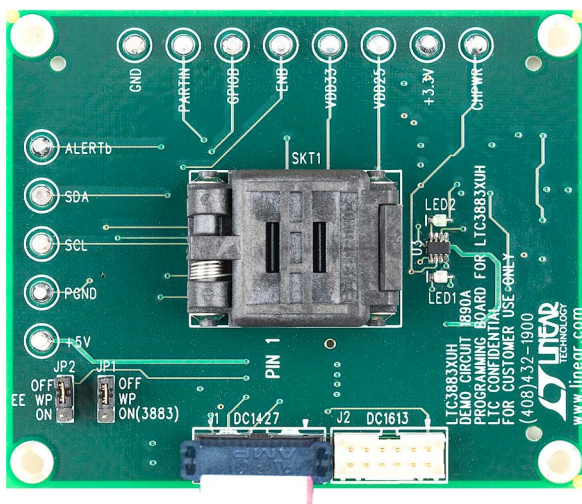
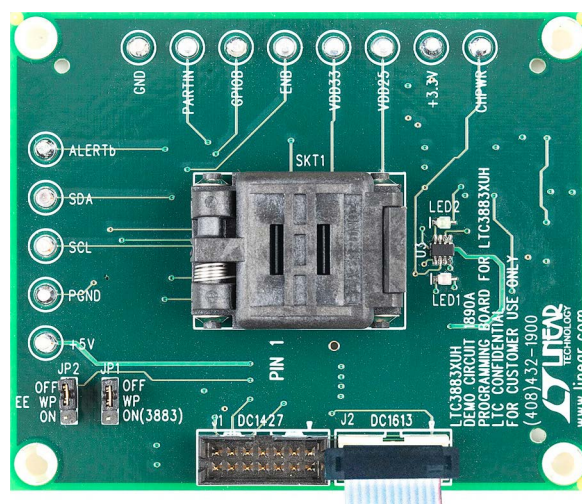

Figure 3. DC1427A Ribbon Cable Installation
Figure 4. DC1613A Ribbon Cable Installation
5. If you have a DC1427A, plug the ribbon cable into J1. See Figure 3. If you have a DC1613A, plug the ribbon cable into J2. See Figure 3 and Figure 4.